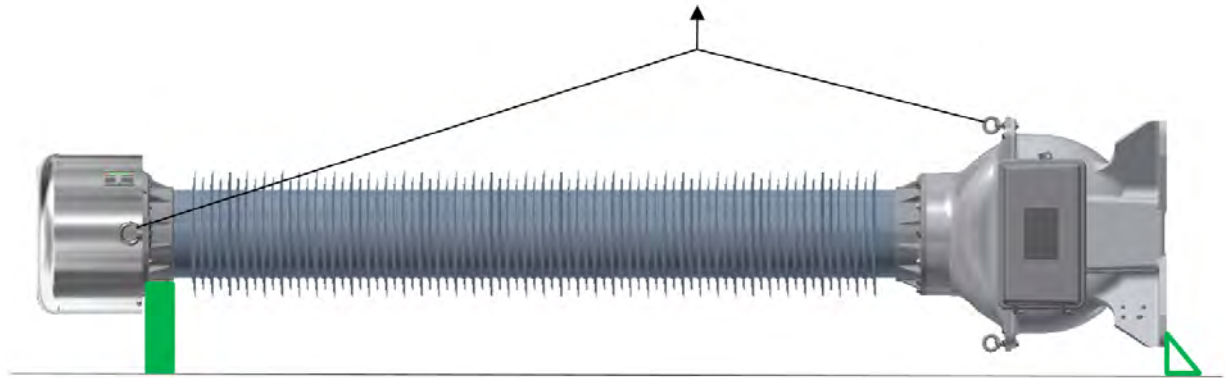

Fig. 21: IVO type voltage transformer: transporting and lifting in a horizontal position
2. Bring the two lifting straps together in the middle and slowly lift the transformer from the centre (Fig. 21).